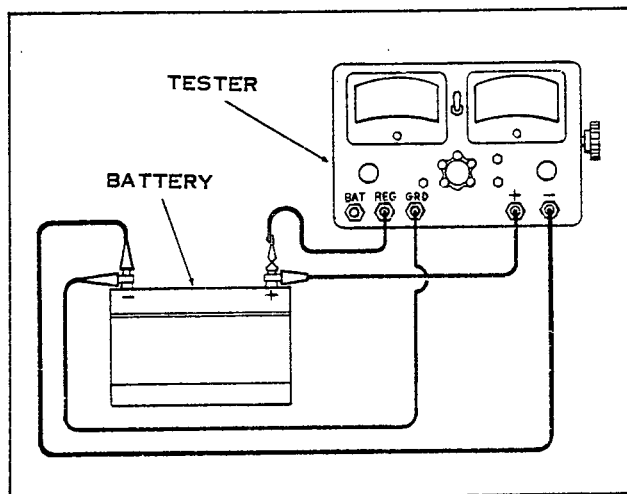

Figure 1.
1. BATTERY CAPACITY TEST (See Figure 1)